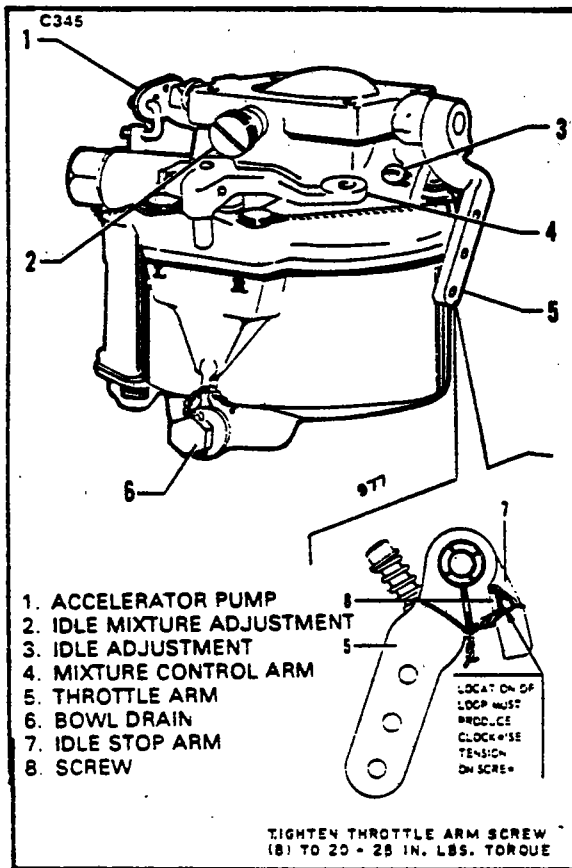

Figure 8-11. Carburetor
- d. Clean the fuel inlet screen. (Refer to Figure 8-11 or 8-12.)
e. Using .032 inch diameter safety wire, first tie the wire to the idle stop lever and then continue as shown in Figures 8-11 and 8-12.
**8-29. ADJUSTMENT OF IDLE MIXTURE. (Refer to Figures 8-11 and 8-12.)**